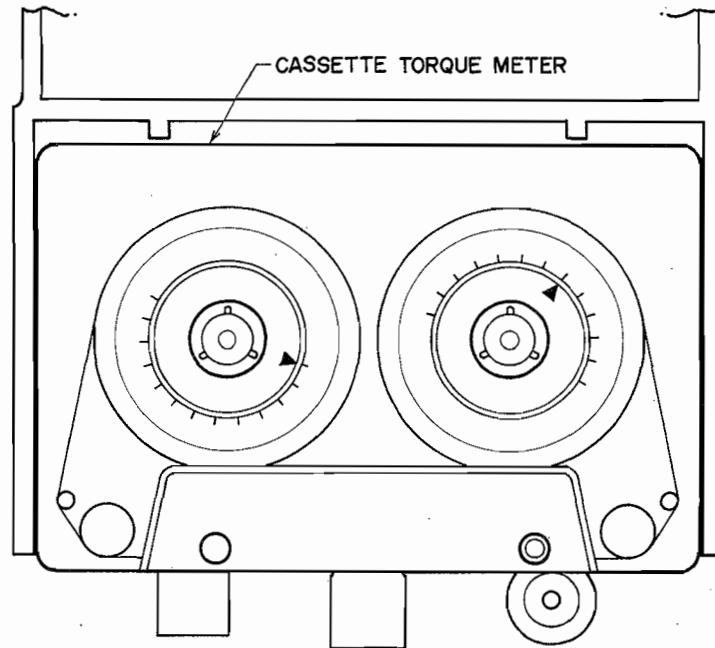

Fig. 22
12. TAKE-UP TORQUE AT VARIOUS MODES AND TORQUE MEASURING METHOD (See Fig. 22)
As shown in Fig. 22, set a cassette torque meter on cassette base, and take a reading of the ▲ indication at each respective mode.